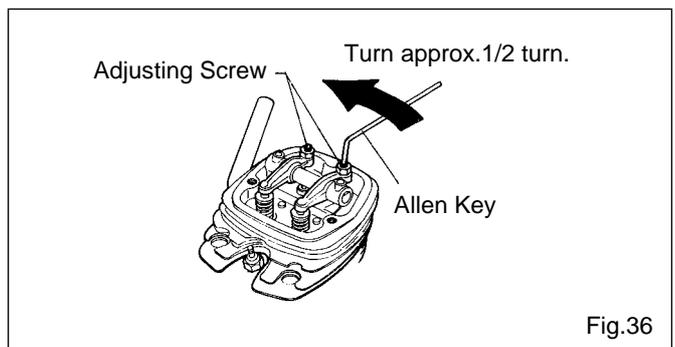

Fig.36
2. Turn adjusting-screw approx. 1/2 turn counter-clockwise to open gap, using appropriate tool-i.e. Allen hex key. (Fig.36.)